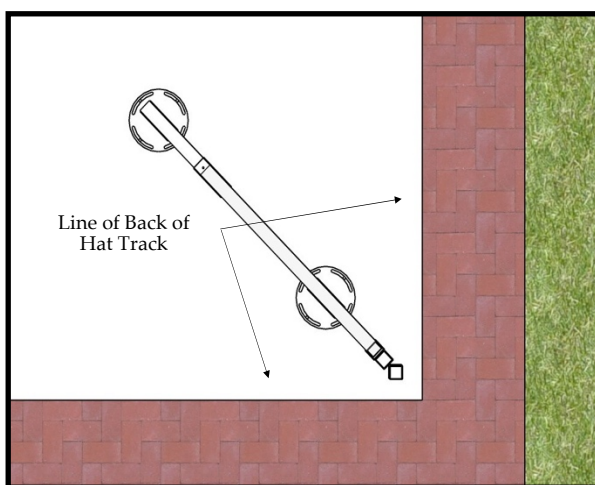

Fig 9
- Begin assembling the corner frames first paying attention to the finish outside surface of the screen then subtracting the thickness of the Screen (#8) and Hat Track (#1) (Fig 9). Refer to the drawings provided.
- Once the corner frames are in place and checked, run a string line from corner to corner down the side you want to assemble next (Fig 9).